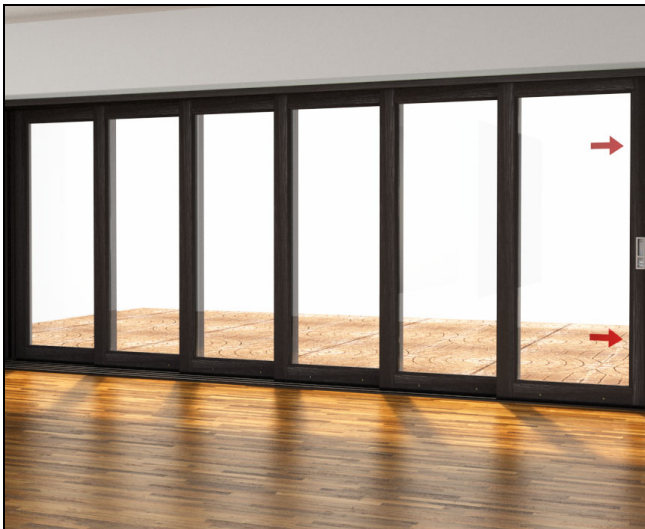

Figure 114
5. Operate the doors to ensure smooth movement and check positioning of the interlocks, head jamb, and side jambs. To ensure pocket interlock is placed correctly, close all panels, making sure primary panel locks properly. Make any necessary adjustments at this time. See figure 114.